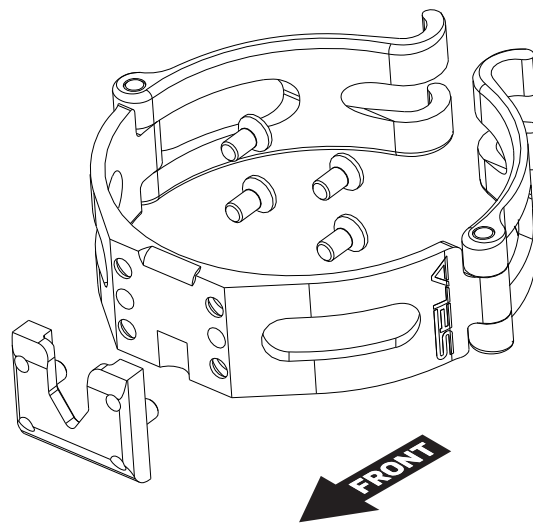

Figure 1: Exploded view of fork ring assembly showing correct part orientation.
21. Mate the receiver to the fork ring. Note the radiused edge on the front side of the fork ring. This edge should point in the same direction as the v-grooved end of the receiver (see **Figure 1** above).